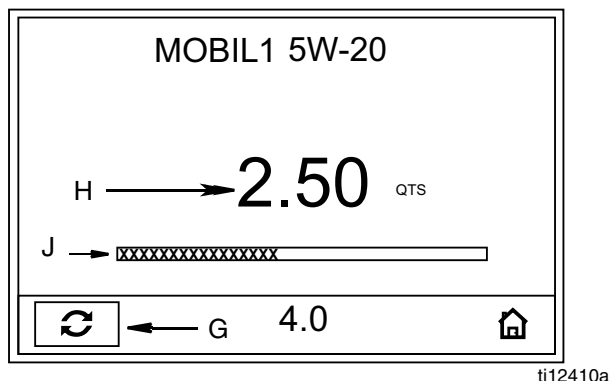

FIG. 25
2. Press center, ENTER button to confirm selection. The Preset Dispense screen (FIG. 25) appears.
Fluid flows. The amount displayed counts up from zero or from the previously dispensed amount (FIG. 25) and displays in field H. A visual representation of the dispense progression also appears on the progression bar (J).